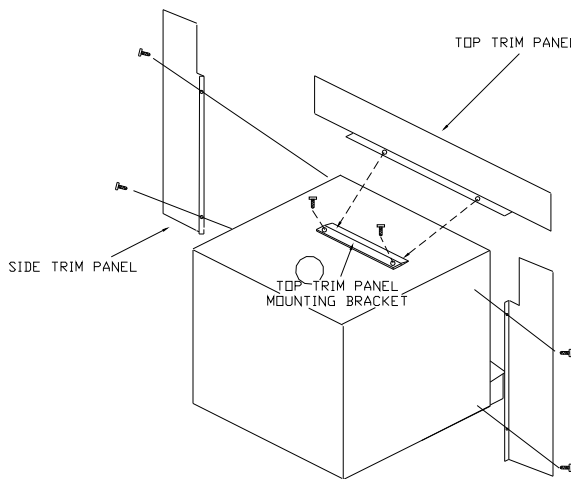

FIGURE 3 MOUNTING TRIM PANELS
1. Set the side trim panels in place, flat against the face of the fireplace. Mark down the front edge of the trim panel with a pencil to make a vertical reference line. (See Figure 3.)
4. Mount the side trim panels. (See Figure 3.)